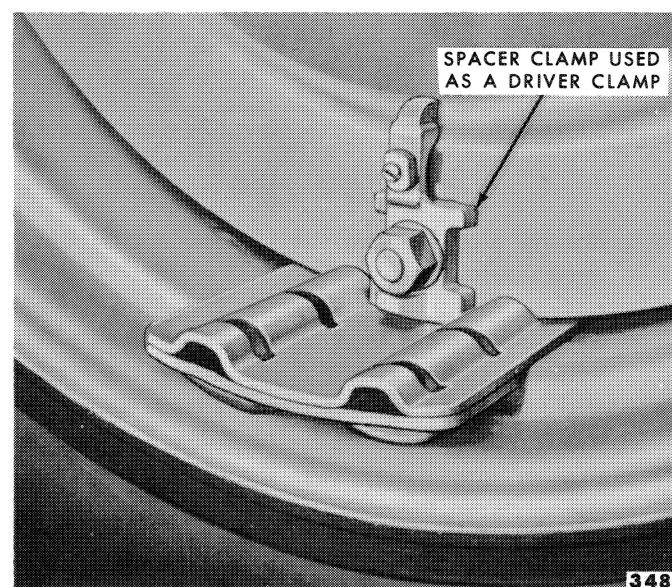

Figure 11—Spacer Clamp Used as Driver Clamp
8. Use the spacer clamp as the fourth wheel locking clamp. Place the clamp on the bolt with the lug in the holding slot and the small bolt head through the wheel disc. Install the large nut and washer and tighten the nut securely. Tighten the small knurled nut. The spacer clamp used as a driver clamp is shown in Figure 11.